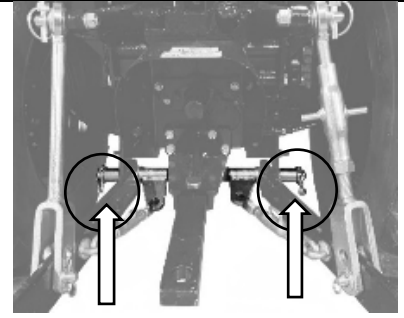

Figure 1B
1. Locate and remove the two Spacers, Lynch Pins, and Flat Washers on the lower lift arms (figure 1B). Retain the Lynch Pins and Flat Washers to be used in the next step.